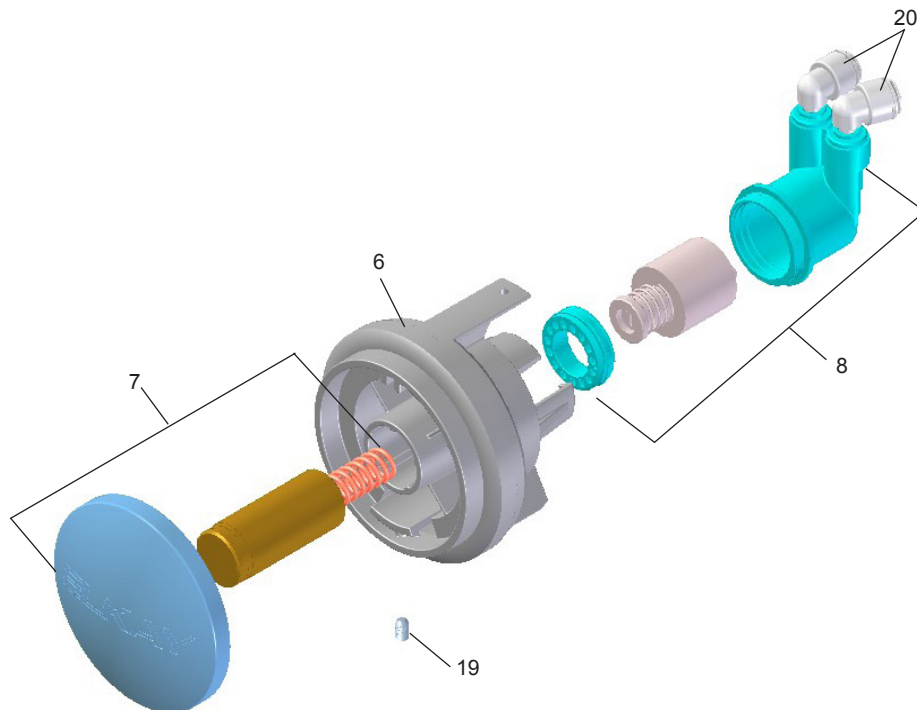

Figure 6 - Push Button Assembly
13. Check stream height from bubbler. Stream height is factory set for 35 PSI supply. If supply pressure varies greatly from this, remove push button (Item 7 - Fig. 6) and adjust the screw on the regulator (Item 8 - Fig. 6). To remove push button, remove setscrew from bottom of sleeve (Item 19). Insert a small punch in screw hole and push up while grasping the push button and pull forward removing the push button. Clock wise adjustment will raise stream height and counterclockwise movement will lower stream height. For best adjustment stream should hit basin approximately 6-1/2" from the bubbler. Reassemble the push button by pushing in on button until the push button catches in the sleeve. Reinstall the set-screw (Item 19) in the sleeve (Item 6).